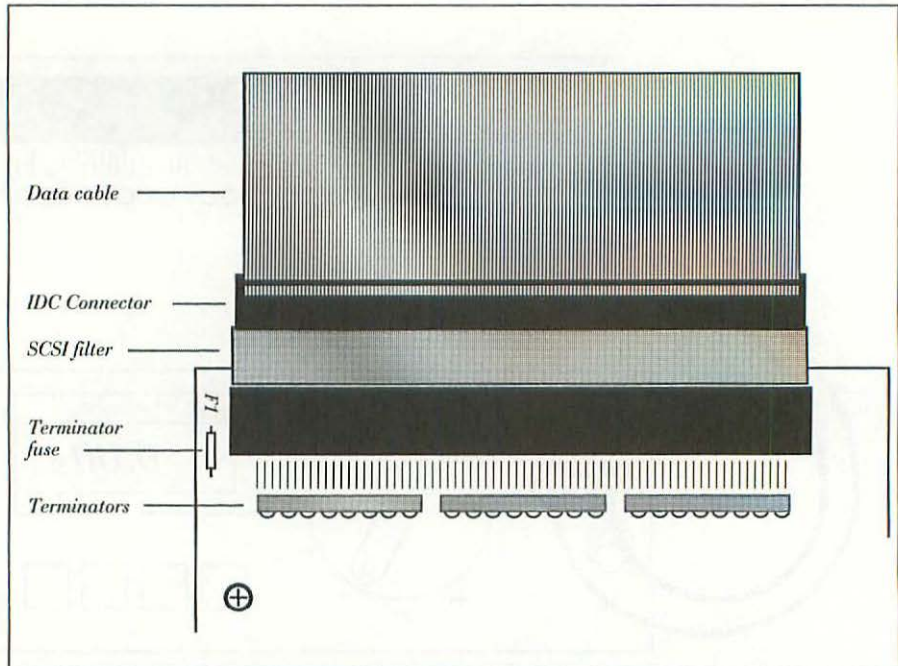

Figure 9-11 A SCSI filter plugs into the 50-pin socket at the back of a SCSI drive.
Most internal SCSI drives installed in a Macintosh IIx and some internal SCSI drives used in a Macintosh IIci require a SCSI filter to suppress line noise. The SCSI filter plugs into the 50-pin socket at the back of the SCSI drive. The 50-pin data cable that normally plugs into the socket plugs into the filter. This arrangement is shown in Figure 9-11.
5. Refer to Figure 9-11. If necessary (Macintosh IIx), plug a SCSI filter into the back of the new drive.